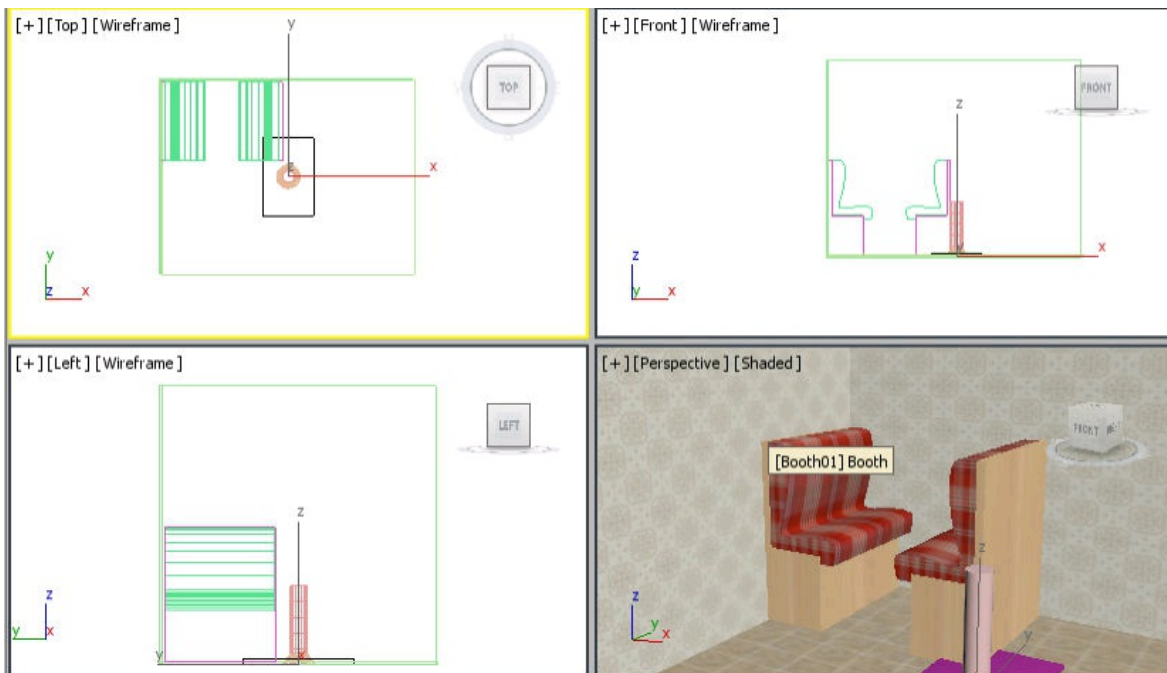

Figure P1-9 Top created
7. Choose the **Create** button; a chamfer box is created. Next, enter the name **Top** in the **Name and Color** rollout; *Top* is created, as shown in Figure P1-9.